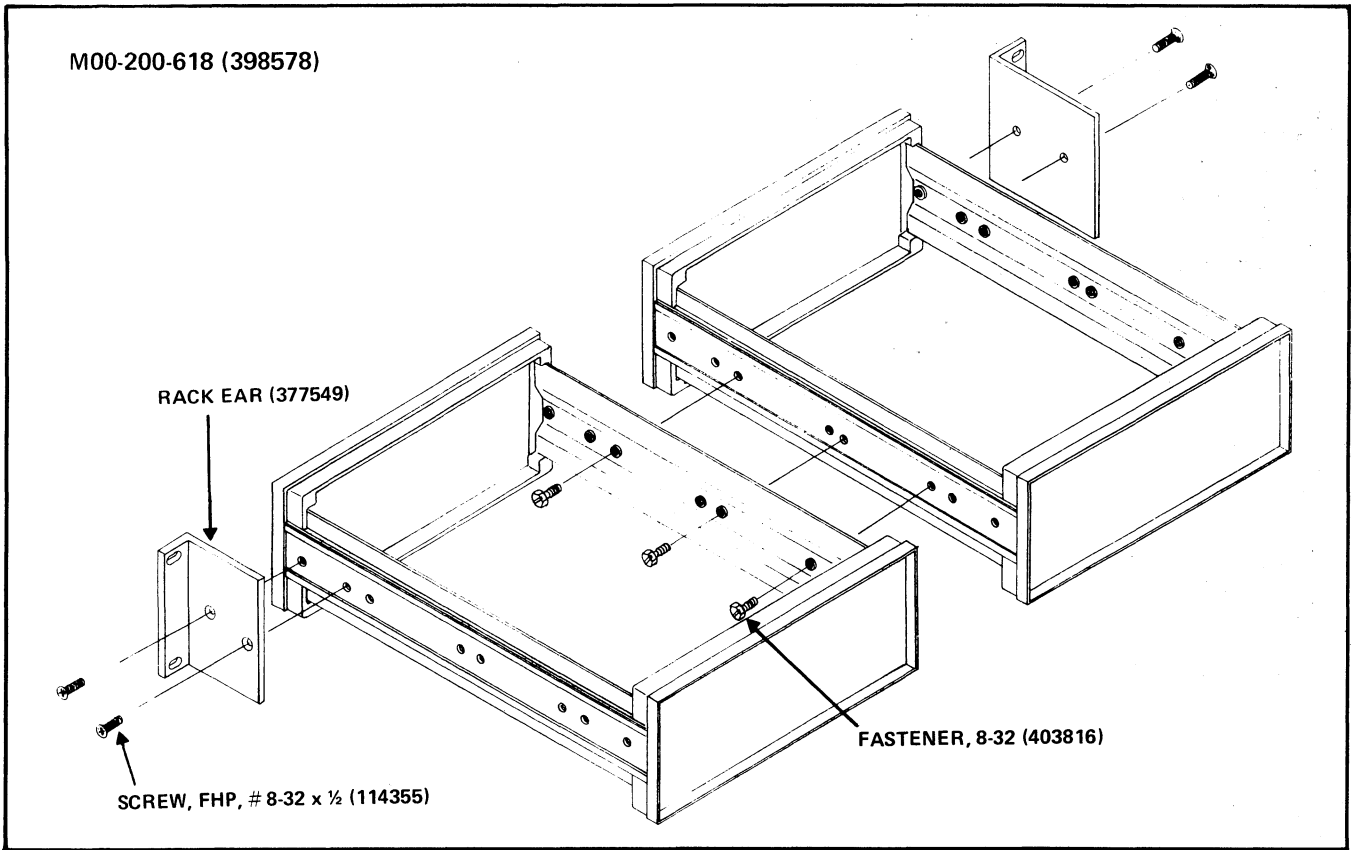

Figure 6-1. SIDE-BY-SIDE RACK MOUNTING
6-7. Use the following procedure to install two 515A Portable Calibrators side-by-side in a standard 19-inch equipment rack. For an illustration of the mounting procedure, refer to Figure 6-1.
- d. Connect the two instruments together and attach the rack ears as shown in Figure 6-1.